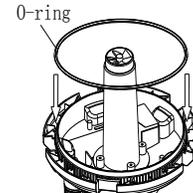

Figure 4
4. When reassembling the device, make sure the o-ring is correctly positioned for a watertight seal (See figure 4). If the seal is out of place or missing there will be significant leakage when filter is operating.